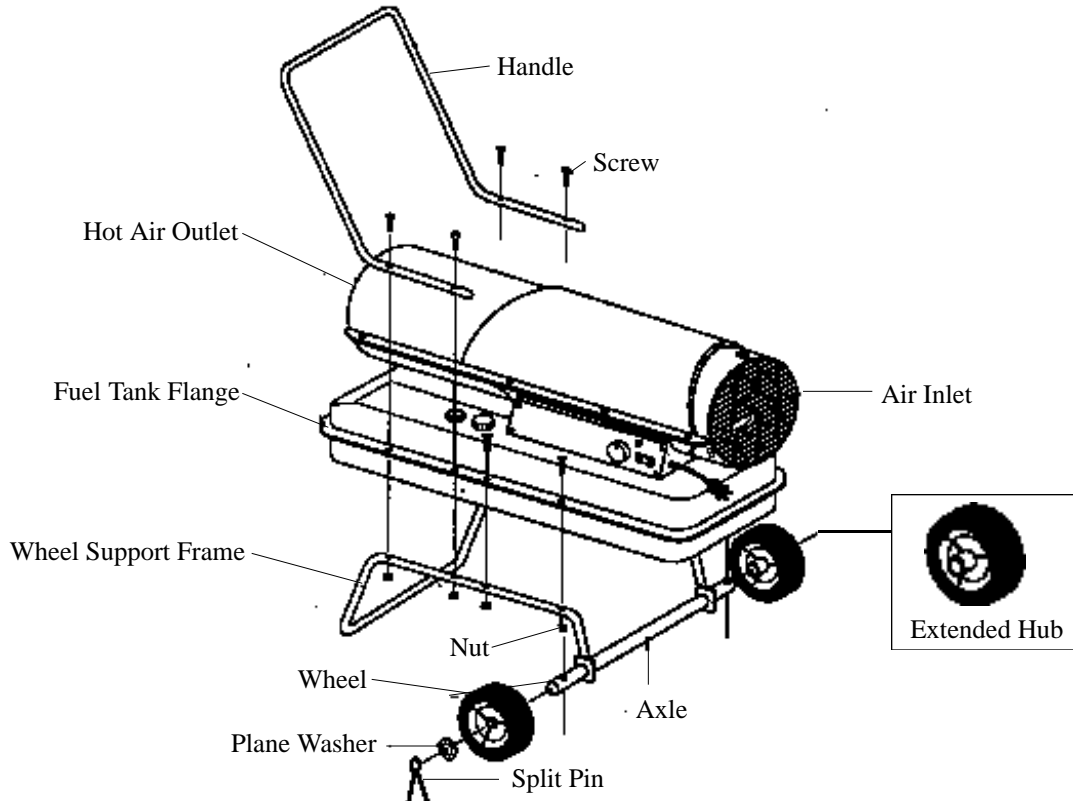

Figure 7. Wheel and Handle Assembly, DFA120/DFA170T MODELS ONLY
B. For DFA120 and DFA170T only (Figure 7)
NOTE: When installing wheels, point extended hub of wheels toward wheel support frame (see Figure 7)
4. Position the handle on top of fuel tank flange. Insert screws through handles, fuel tank flange, and wheel support frames as shown in Figure 7 and attach nut finger tight after each screw is inserted.